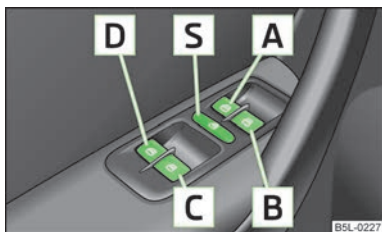

Fig. 18
- It is recommended to deactivate the electrically operated power windows in the rear doors (safety pushbutton) [\[S\]](#) » Fig. 18 on page 35 when children are being transported on the rear seats.
The buttons for the individual windows are located in the armrest of the driver's door » Fig. 18, front passenger seat and in the rear doors » Fig. 19 on page 35.
The buttons for power windows in the rear doors can be deactivated by pressing the safety pushbutton **S** » Fig. 18. The buttons for the power windows in rear doors are activated again by pressing the safety pushbutton **S** again.